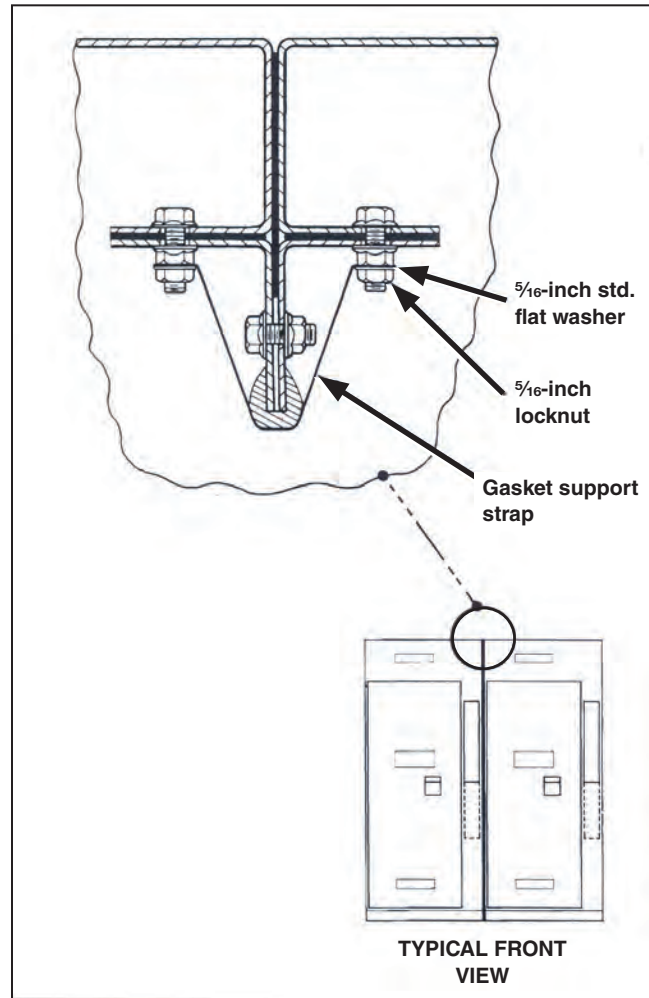

Figure 9. Installation of gasket-support straps in switchgear rated 4.16 kV or 13.8 kV.
- (c) Install gasket-support straps (provided) at locations along the top of each bus opening. Each end of the strap is to be placed against the nut on a roof-attachment bolt and secured in place with a  $\frac{5}{16}$ -inch flat washer and a  $\frac{5}{16}$ -inch locknut (provided). See Figure 9. Do not loosen any roof-attachment bolts. **For Switchgear Rated 25 kV or 34.5 kV:** Install and tighten bolts and nuts at the edges of through-bus openings on adjacent bays using the  $\frac{5}{16}$ -inch hardware furnished.